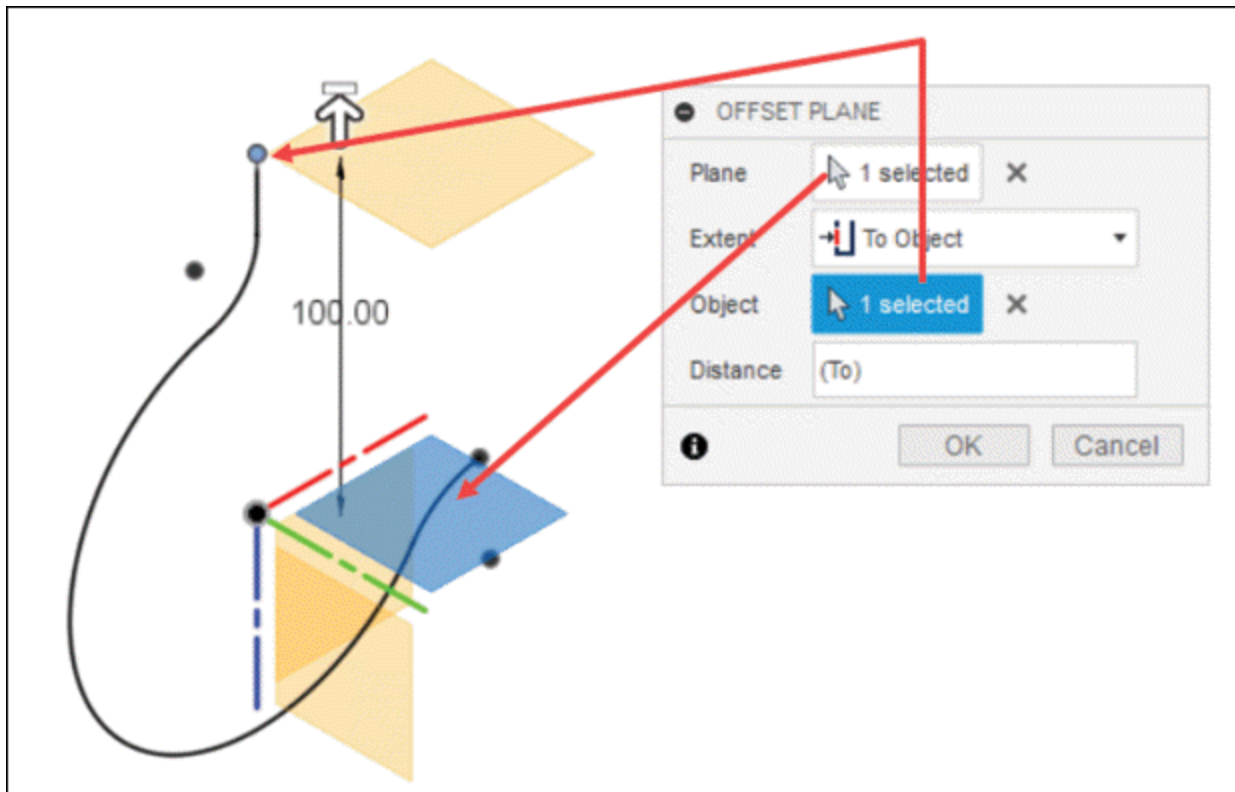

Figure-96. Creating offset plane for section sketch
- Create a plane offset of XY plane and distance up to top point of sketch; refer to Figure-96.
- After setting parameters as shown in Figure-96, click on the **OK** button from the dialog box.